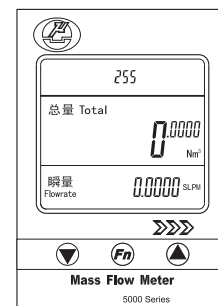
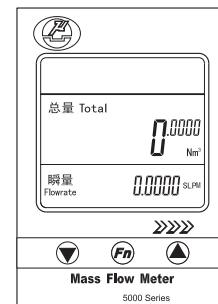

Figure 6-9 Multi-device communication mode
Figure 6-10 Single-device communication mode
(4) Communication Modes switches (Figure 6-9, Figure 6-10)
- Set the address of the meter(value of *SET Addr*) as (3).E. such as 255;
- Set the meter to *Multi-device communication mode* (select value of *PrOTOCOL* to P1--255 or P2--255) as (3).D;
- Set the meter to Single-device communication mode (select value of *PrOTOCOL* to P0--000) as (3).D;